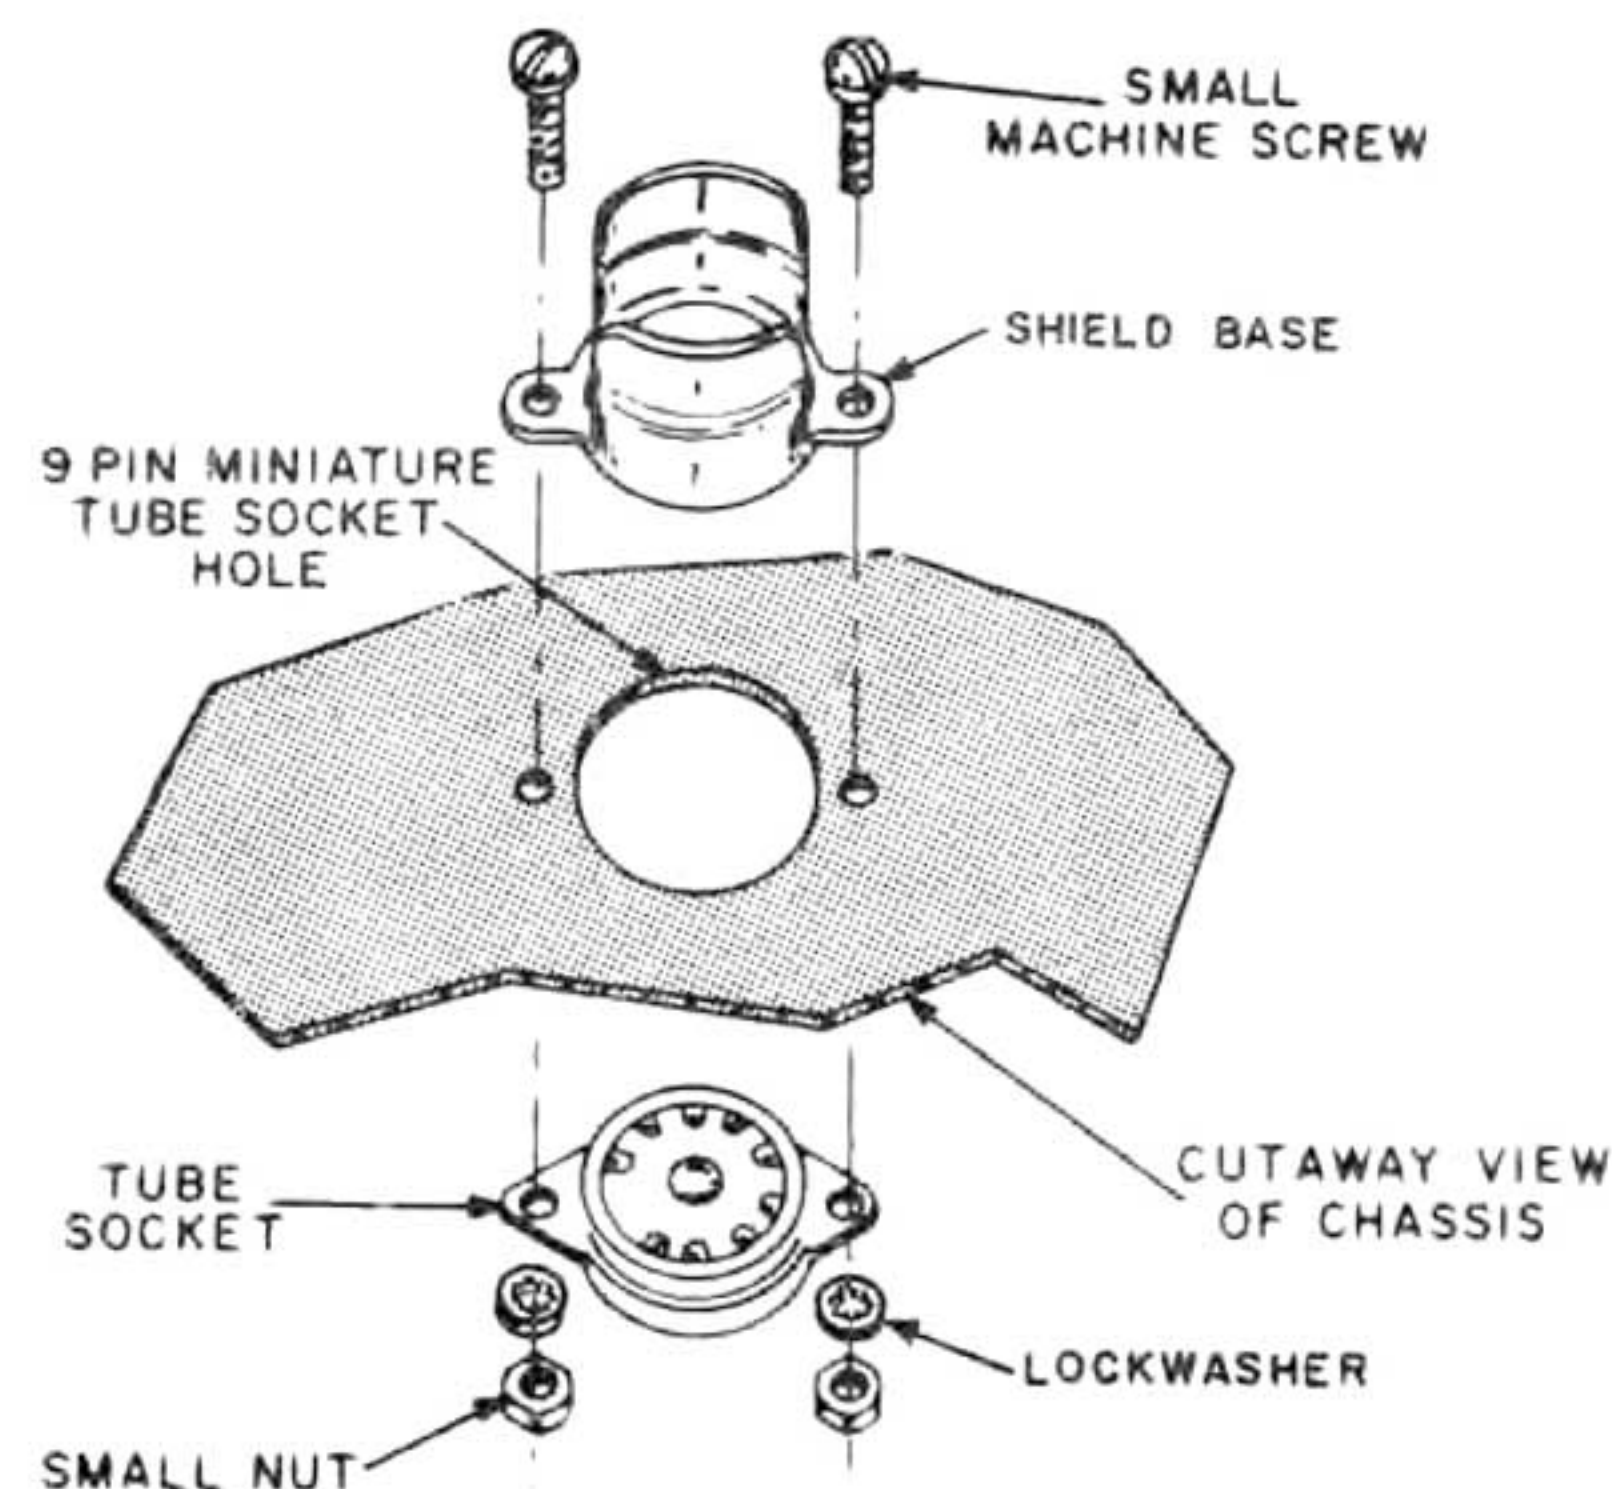

Figure 3. HOW TO MOUNT A TUBE SHIELD BASE
- ☒ See Figure 3. Insert four 4-40 screws through the mounting holes of the two tube shield bases, and through the chassis holes for the V-1 and V-2 sockets. (It may be necessary to thread the screws through with a screwdriver.) From inside the chassis, mount the V-1 and V-2 sockets on these screws. Position the keyways (the extra space between two pins) as shown. Secure with four lockwashers and nuts.